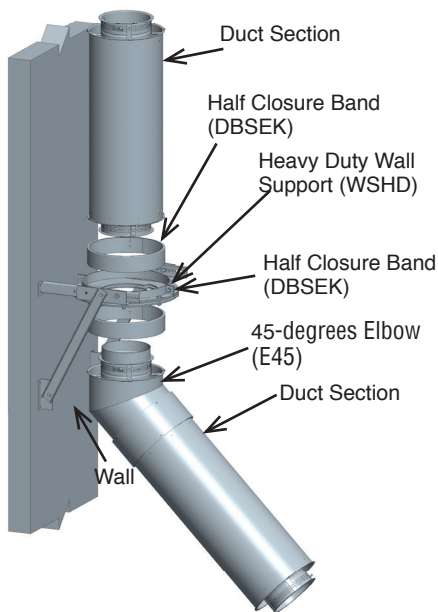

Figure 106: Elbow with an Heavy Duty Wall Support (HDWS)
Elbows are to be supported on one end with either an Anchor Plate (AP), an Anchor Plate with Length (APL), or a Heavy Duty Wall Support (WSHD). See **Figure 105** for an example with an AP and **Figure 106** for an example with a (WSHD).